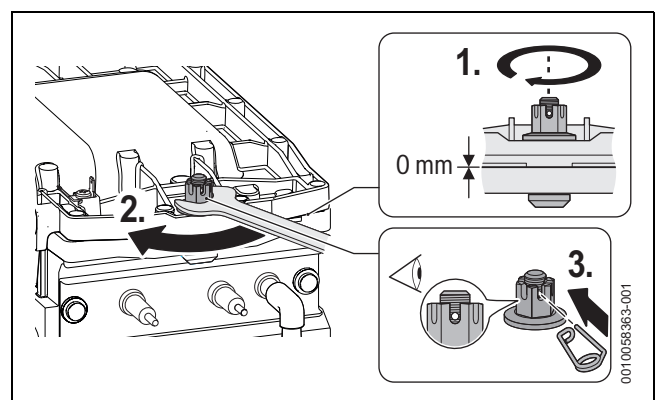

Fig. 86 Burner cover securing nut tightening
- ▶ Reinstall the burner in reverse order, including a new gasket. With the burner and the burner cover refitted. Refer to figure 86.